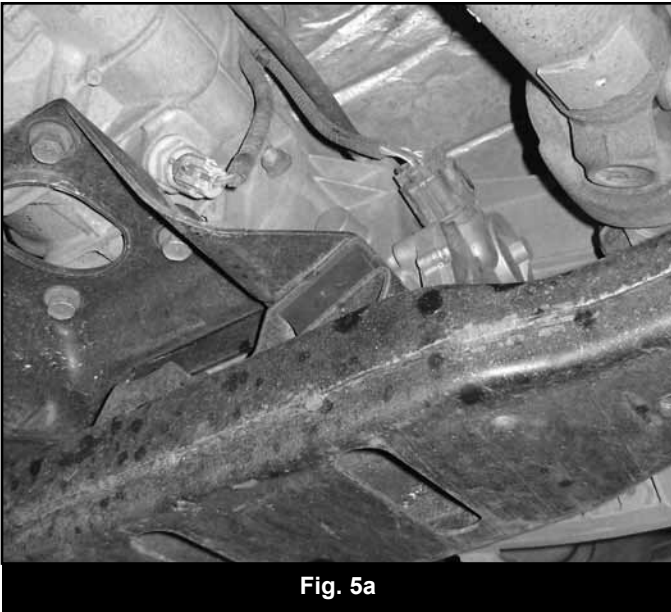

Fig. 5a
12. Remove the mount from the transmission (4 bolts), retain bolts. (Fig 5a, 5b)